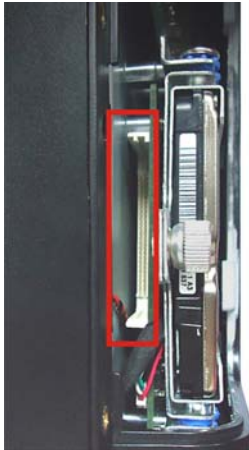

Figure 4-7: CF Card Slot Location
Step 3: The CF card slot is located underneath the HDD bracket. (Figure 4-7).